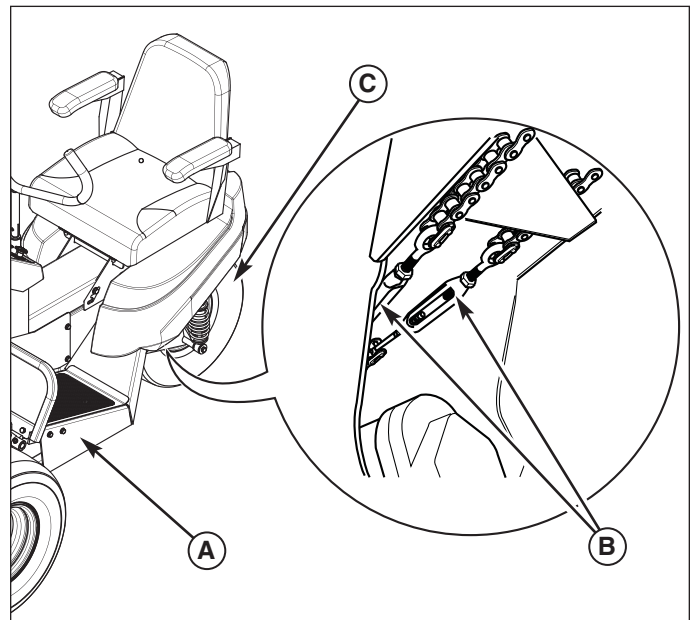

Figure 1. Locating the Steering Turnbuckle
2. Refer to figure 1. Locate the steering chain turnbuckles (B, Figure 1) in front of the rear steering tire on the underside of the trailer frame beneath the seat.